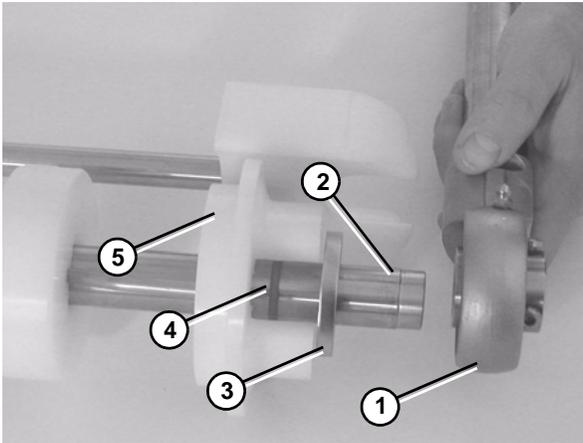

Figure 63
- Slide the bearing shaft assembly (Figure 63, item 1) washer off (Figure 63, item 3), O-ring (Figure 63, item 4), and flanged puck (Figure 63, item 5) off the idler shaft (Figure 63, item 2).